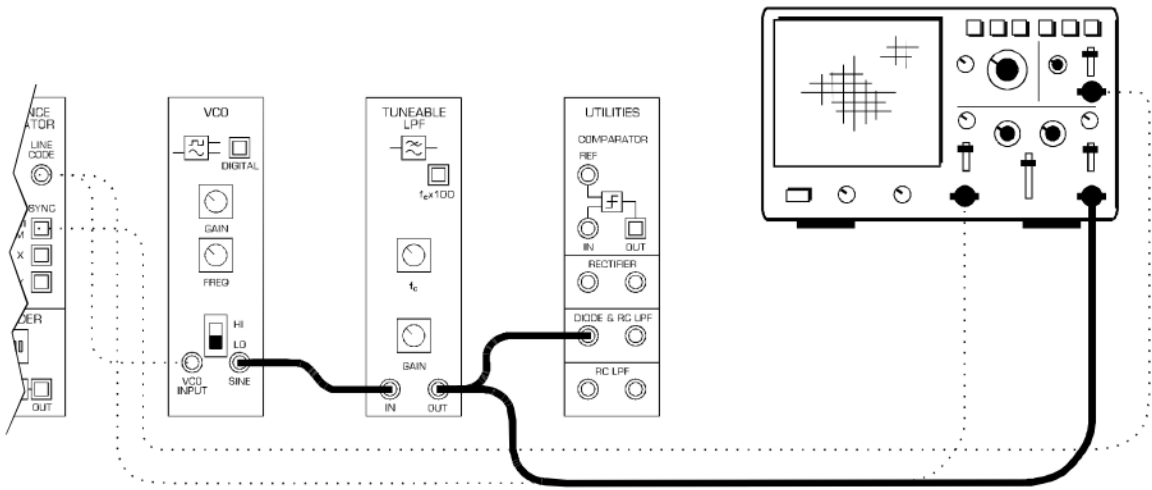

Figure 25:
17. Modify the setup as shown in Figure 25. Remember that the dotted lines show leads already in place. Also, the left most modules have been cut-off to fit the drawing on the page.